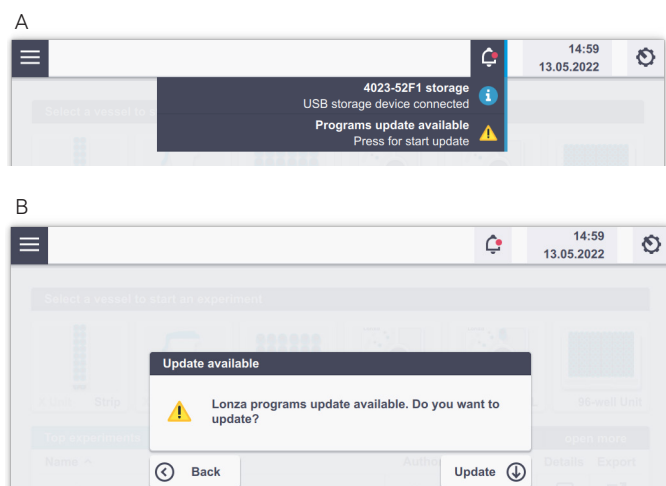

Figure 2.47: (A) Message upon insertion of USB stick with respective Lonza program file. (B) message after tapping on the program update button.
- A screen will open, allowing to select “Pulse code” and “Solution” field and a “Unit” selection (Figure 2.47, A and B). Alternatively, a new Cell type code can be saved directly from the experiment screen (see unit-specific chapters).
Figure 2.47: (A) Typing the name of the custom Cell Type Code. (B) Overview of conditions for custom Cell Type Code. Press “Save” to save the conditions, press “Clear” to start again.